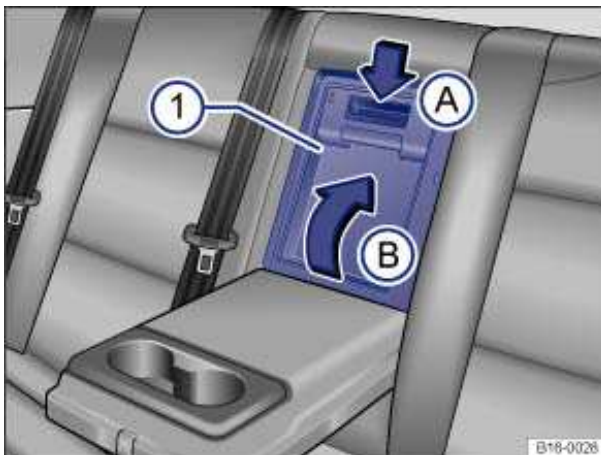

Fig. 112 In the rear seat backrest: Opening luggage compartment pass-through without lock.
- Push down the release button ⇒ fig. 112 \(A\) and fold the pass-through cover (1) down into the luggage compartment (B).